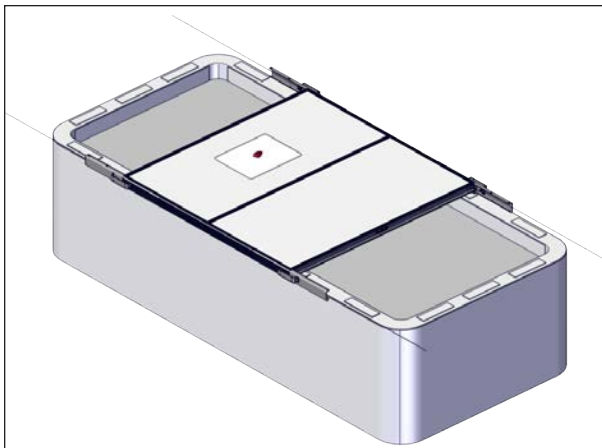

FIGURE 36: INSTALLATION OF THE COVER ON THE SPA
13. If it is not done yet, carefully position the assembled center section of the cover onto the middle of the spa. Try to align the cover as best as possible, see Figure 36.